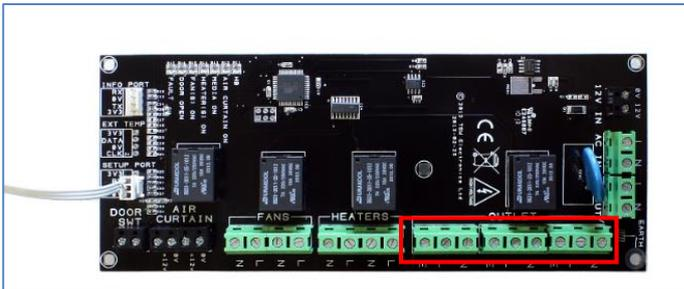

Figure 2a
Step 2: Secure the relevant wires specific to your region into the 'Neutral (N), Live (L) and Earthed (E)' outlets (figure 2a).